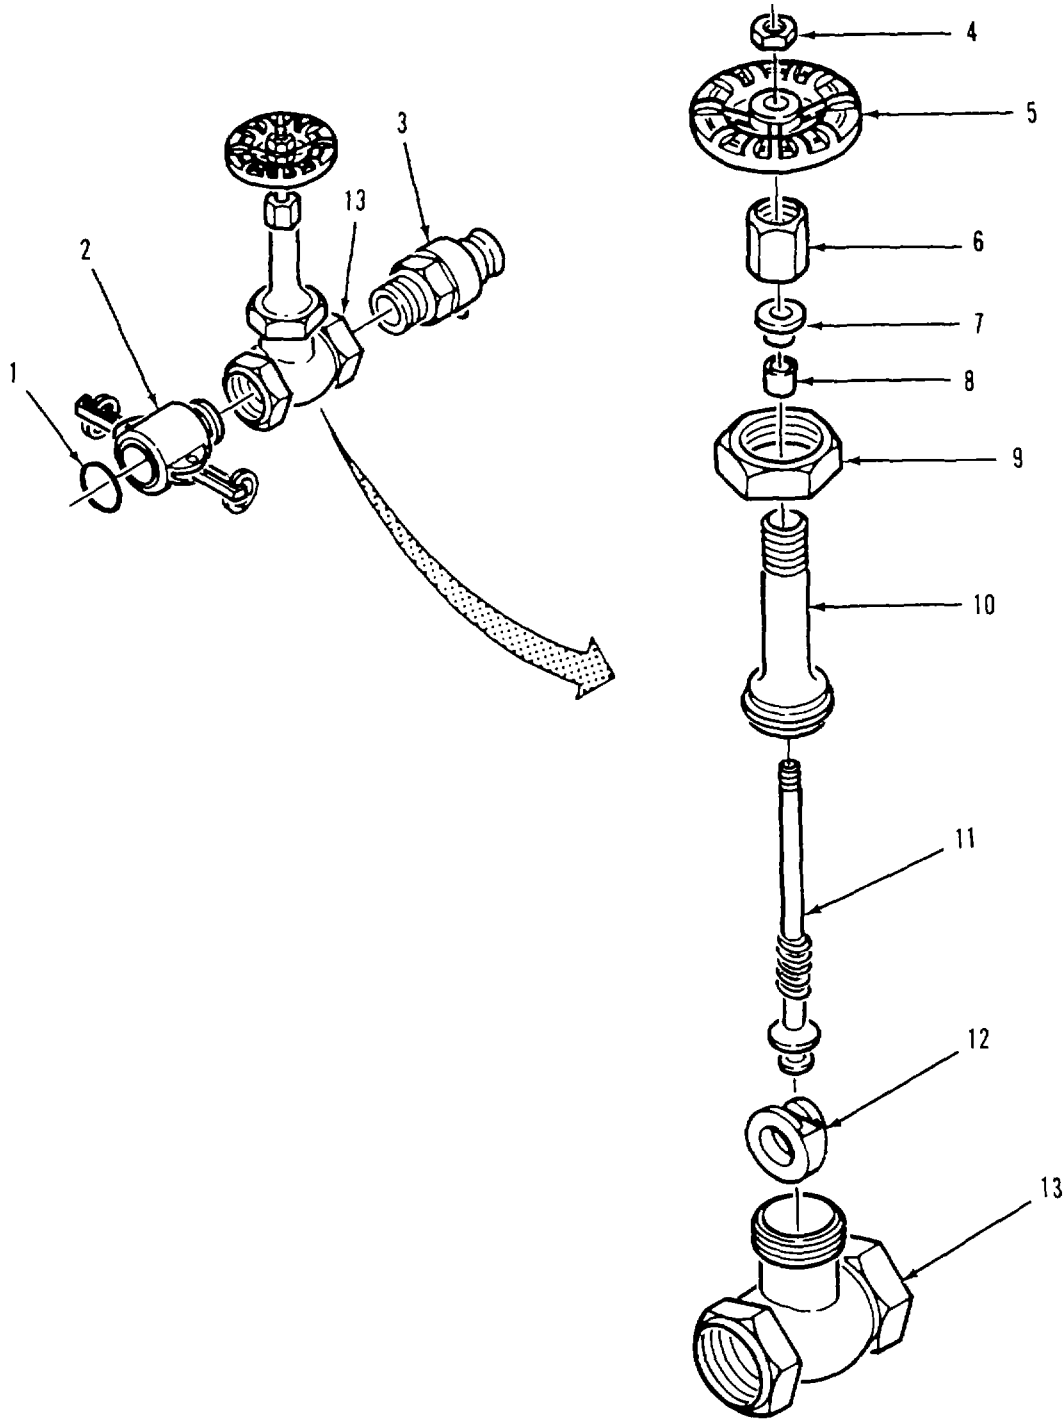

Figure 4-5. Gate Valve Assembly (2-inch) Repair.
- a. Disassembly. Refer to figure 4-5.
- (1) Clamp gate valve body (13) in vise
- (2) Remove gasket (1) from female coupling (2)
- (3) Using pipe wrench, unscrew female coupling (2) from valve body (13).
- (4) Using pipe wrench, unscrew male coupling (3) from valve body (13).
- (5) Turn handwheel (5) fully clockwise to close valve.
- (6) Remove handwheel nut (4) and handwheel (5) from stem (11).
- (7) Using pipe wrench, remove bonnet ring (9) from valve body (13) Lift bonnet (10) and attached parts from valve body
- (8) Slide disc (12) from end of stem (11).
- (9) Unscrew packing nut (6) from bonnet (10).
- (10) Remove packing gland (7) and packing (8) from bonnet (10)